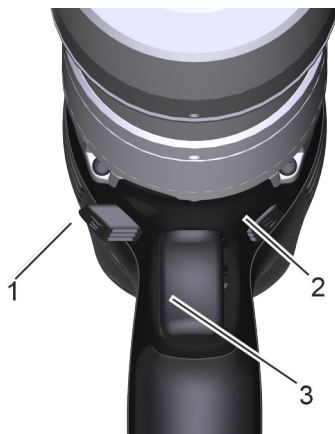

Fig. 48: Direction of rotation
To rotate in clockwise direction (CW), push the direction of rotation lever (Fig. 48/1) to the right.
To rotate in counterclockwise direction (CCW), push the direction of rotation lever (Fig. 48/2) to the left.
Press dual trigger 1 (Fig. 48/3) carefully.